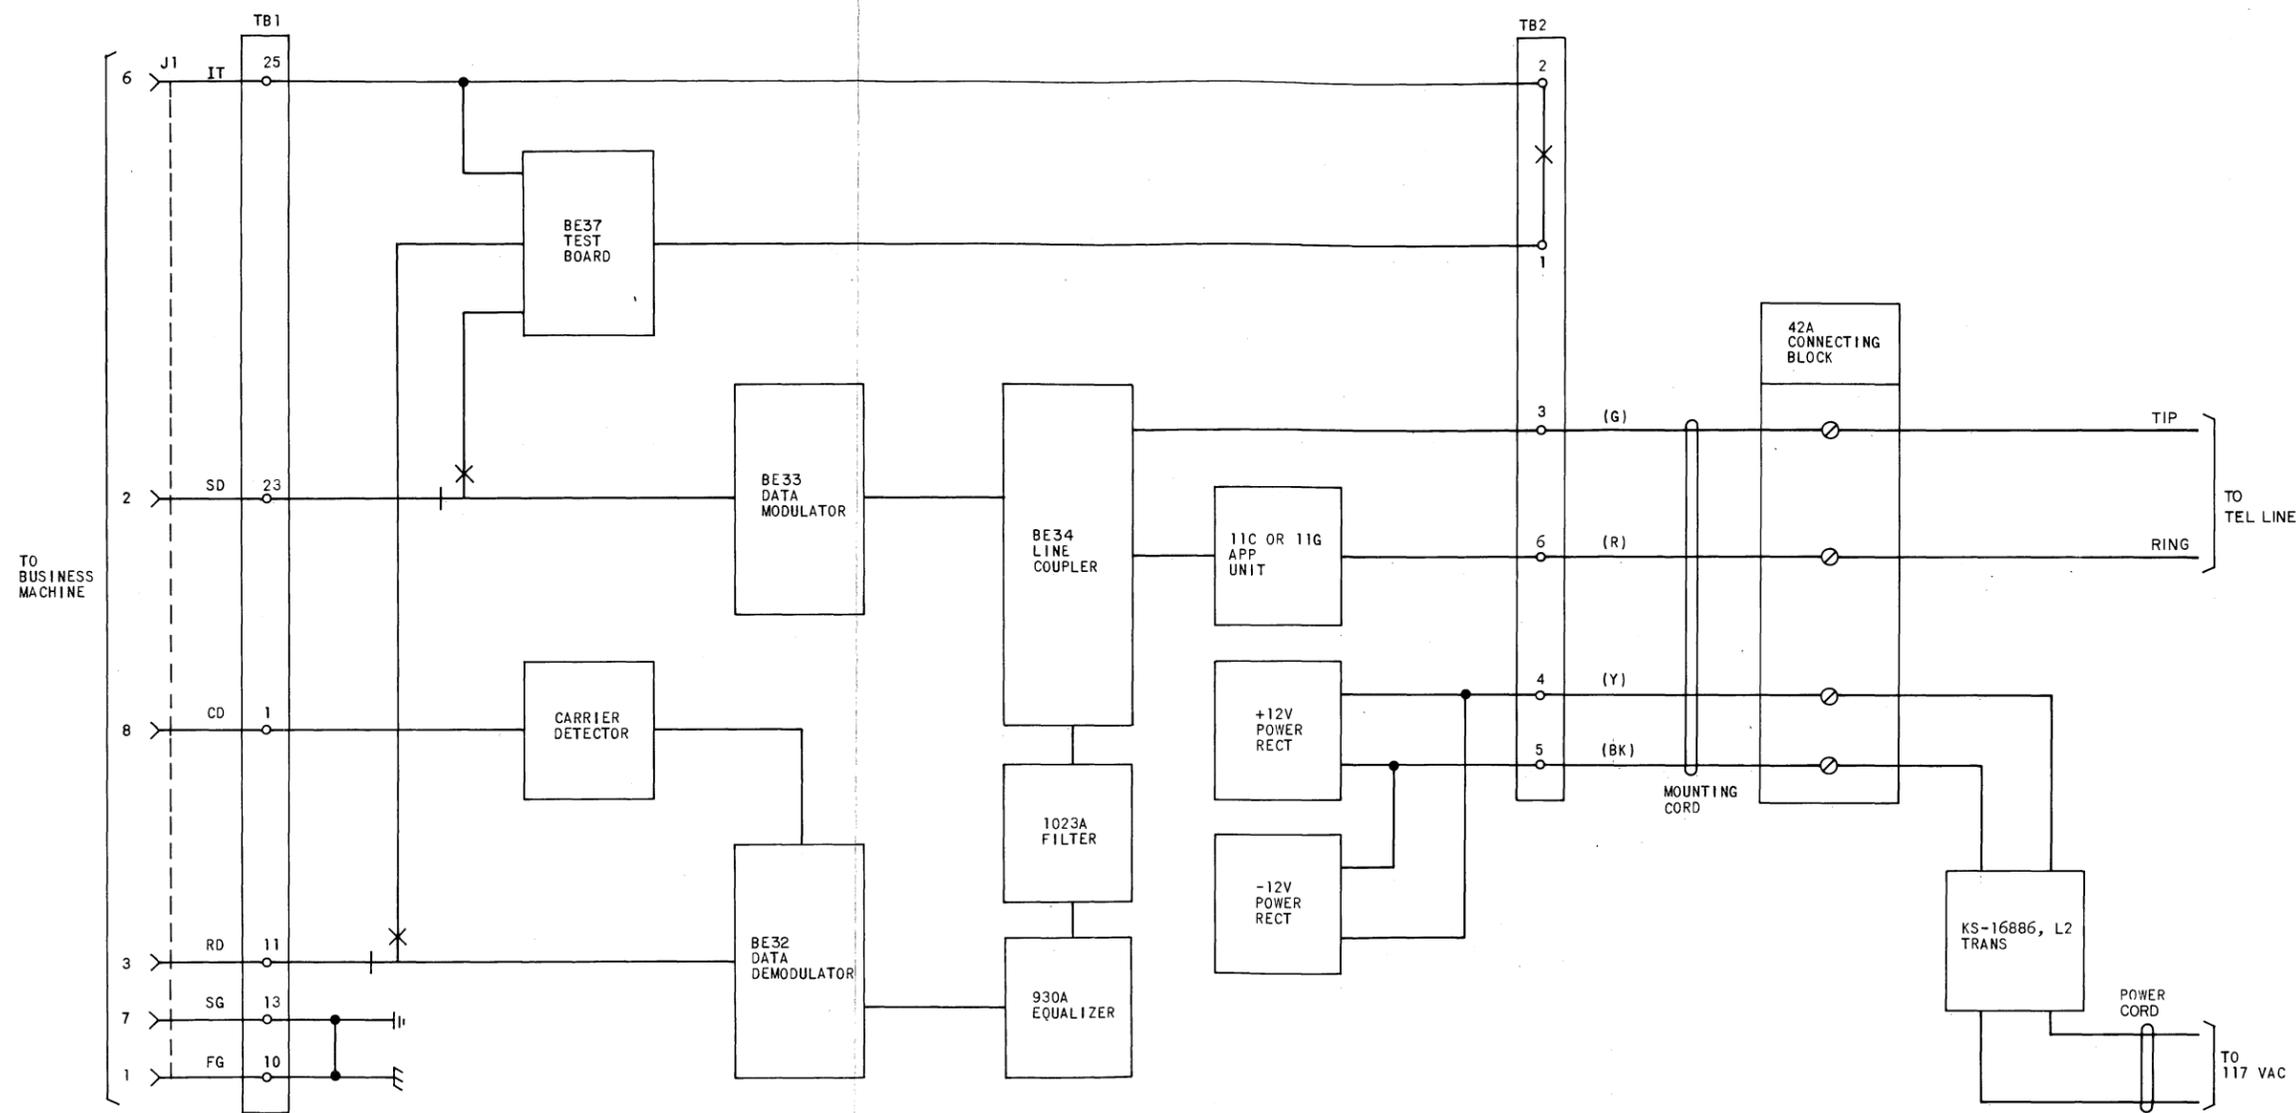

Fig. 4—Data Set 602D-Type, Block Diagram
3.01 A functional block diagram of the Data Set 602D-type is shown in Fig. 4.